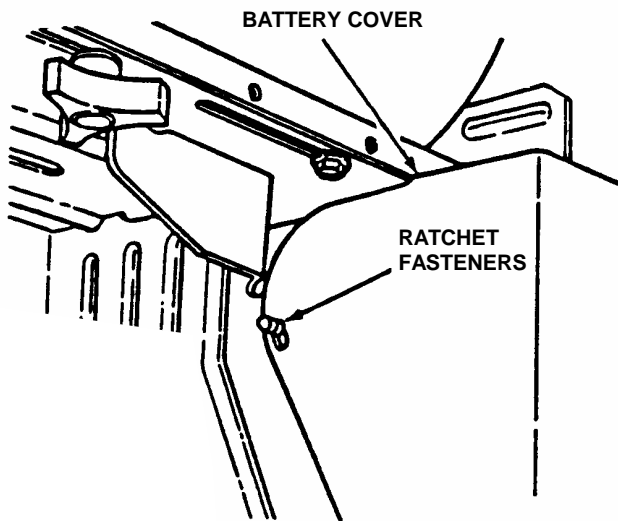

FIGURE 4.16
1. Carefully pull each side of battery cover away from ratchet fasteners and remove cover. See Figure 4.16.
5. Reinstall battery cover. See Figure 4.16.
11. Reinstall battery cover. See Figure 4.16.